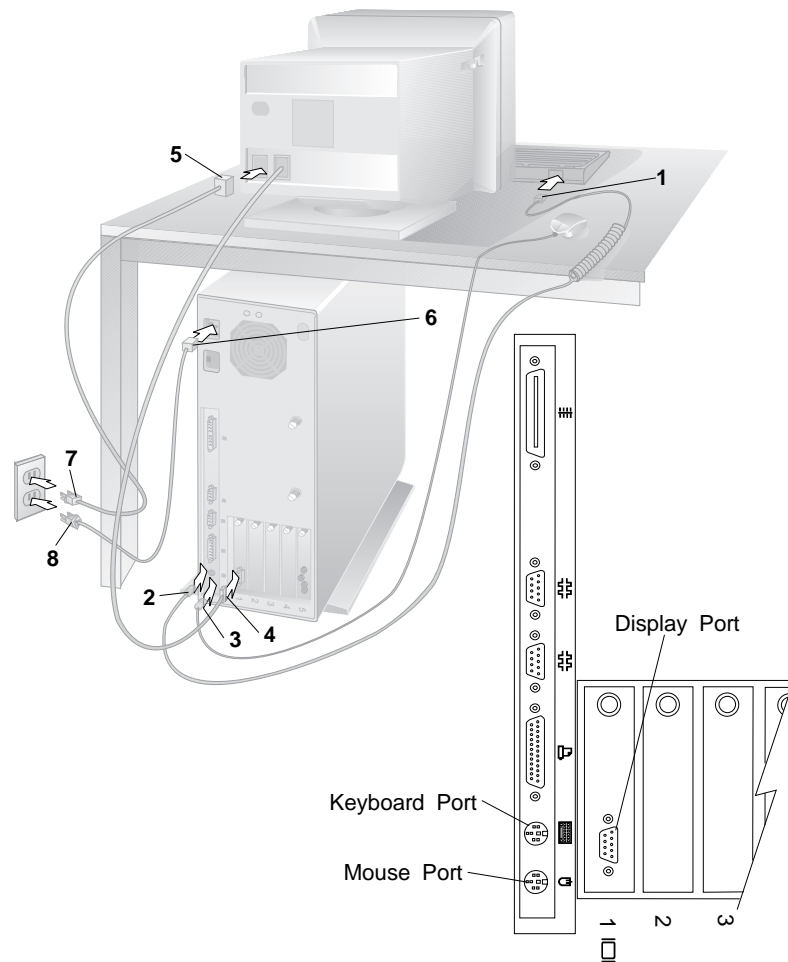

Figure 1-85. Cable Connections
- e. ____ **Connect** the keyboard cable, the mouse cable, and the display signal cable (1 through 4, see Figure 1-85 on page 1-76).
- f. ____ **Connect** the power cords to the display and the Service Processor (5 and 6, see Figure 1-85 on page 1-76).
- g. ____ *After you secure all these connections, **plug** the power cords into properly grounded electrical outlets (7 and 8, see Figure 1-85 on page 1-76).*